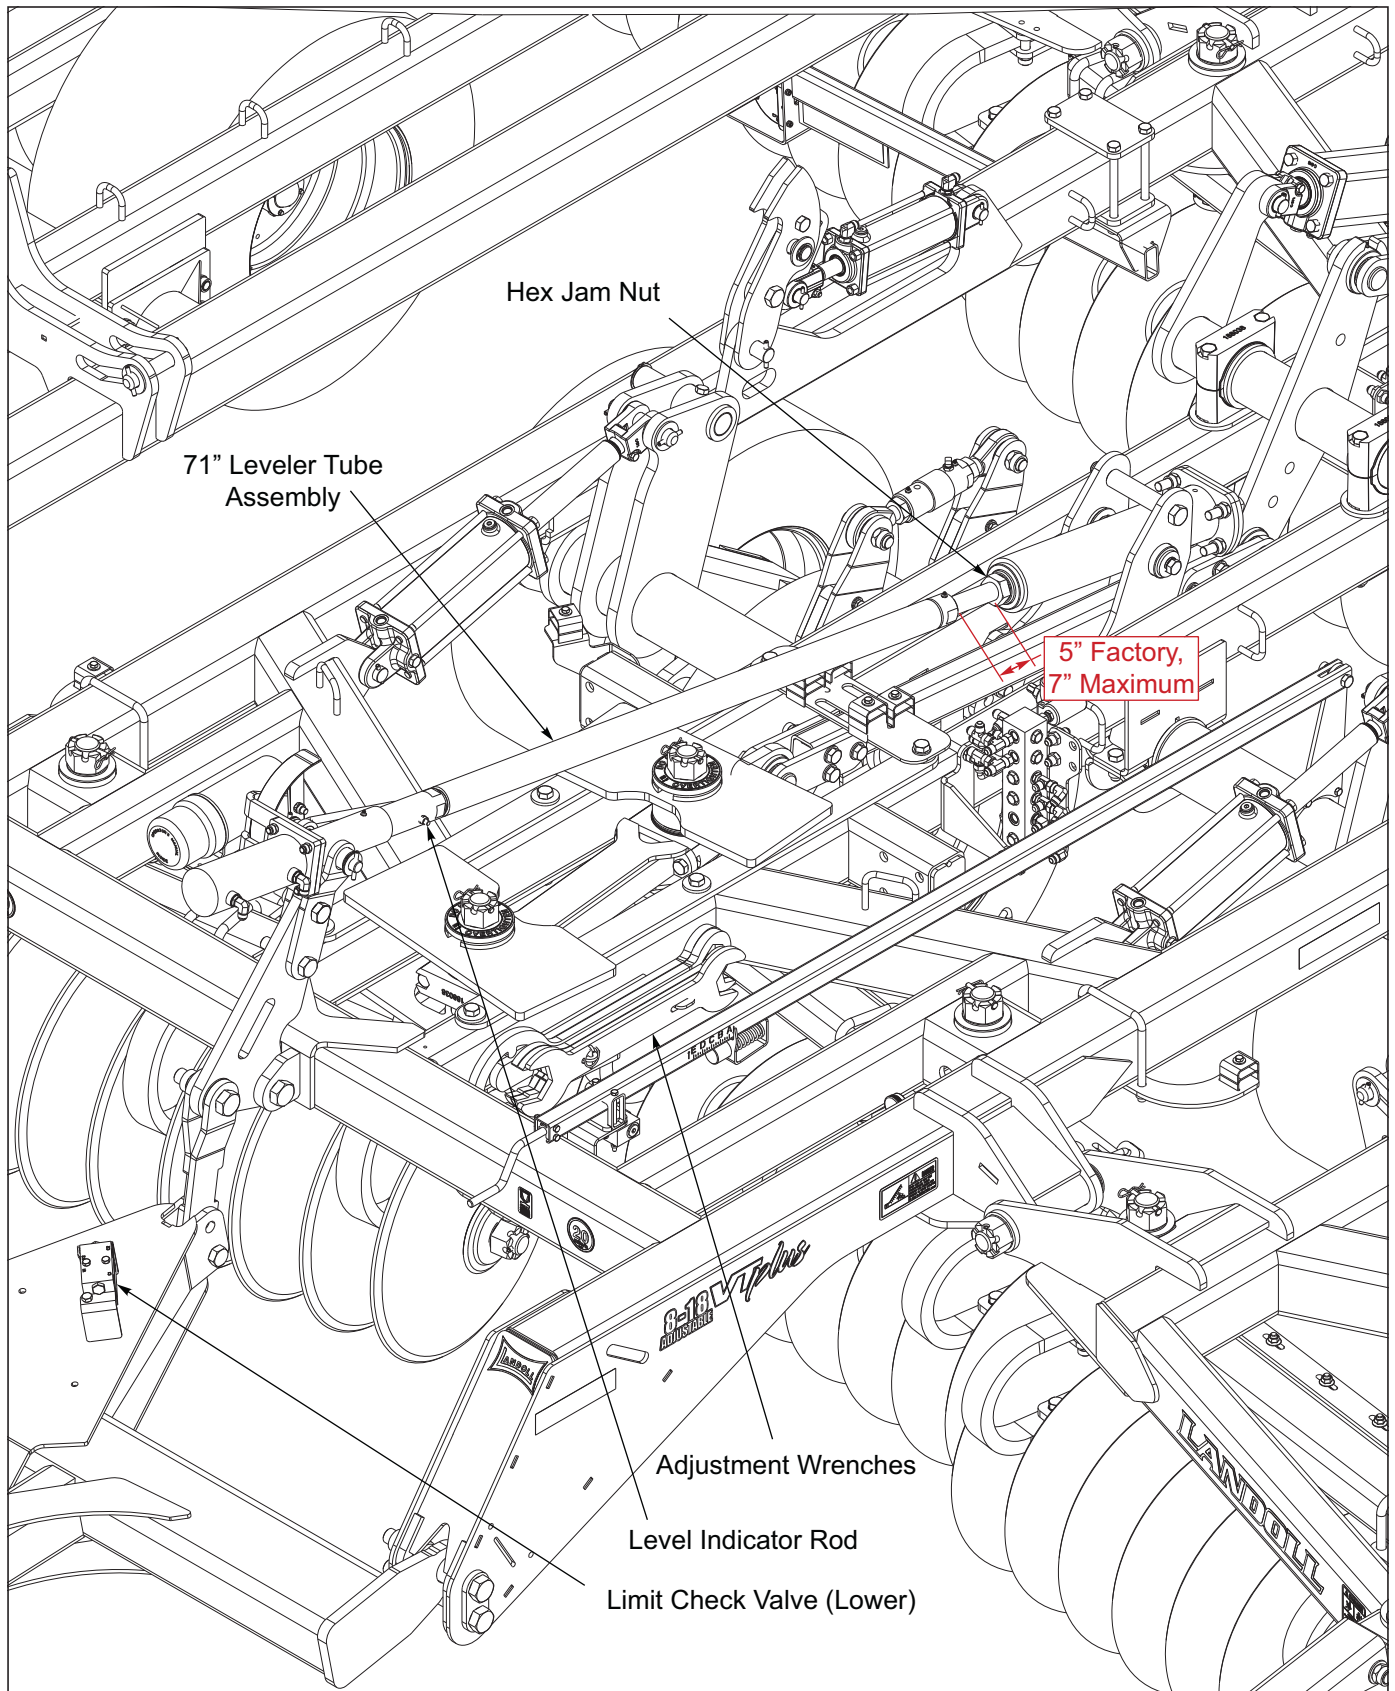

Figure 4-10: Hydraulic Leveler Adjustment
2. Remove the level indicator rod from the leveler tube ***See Figure 4-10*** and ***"Leveler Assembly" on page 3-8.***